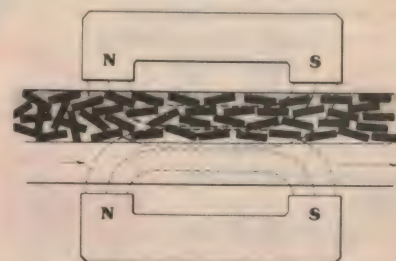

Fig. 11
3. Passing the coated tape through an appropriate longitudinal magnetic field while the coating is in the fluid state (Fig. 11).